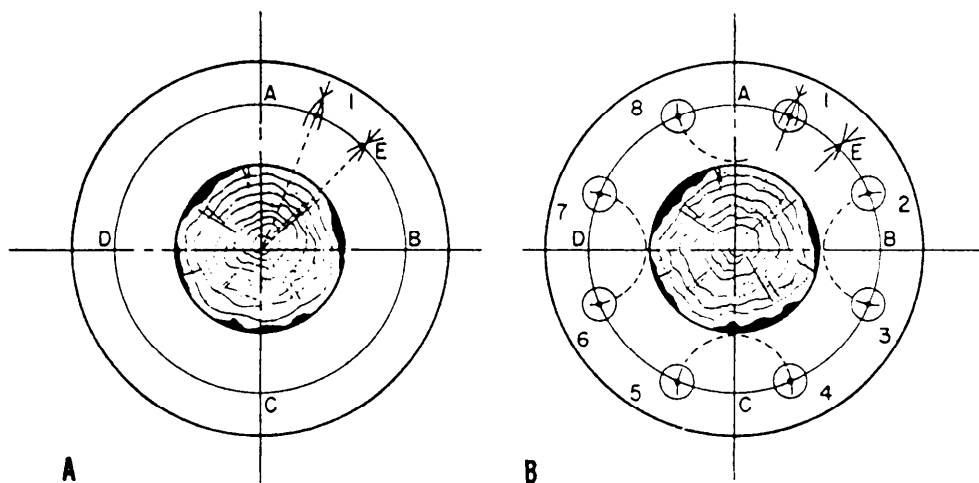

Figure 2-33.—Eight-hole flange development.
Figure 2-33 shows the development of an 8-hole flange. First locate point E by the same method described to locate point 1 in the 4-hole layout. Then, divide arc AE in half by the same method. The midpoint of arc AE is the location for the center of the hole (1). (Set view A of fig. 3-33.) Next, set your dividers for distance A (1), and draw an arc across the
pitch circle line from A at point 8; from B at points 2 and 3; from C at 4 and 5; and from D at 6 and 7. (See view B of fig. 2-33.) Now, set your calipers for distance AE and gauge the pitch chord for accuracy. Then, finish the layout as described in the preceding paragraphs.